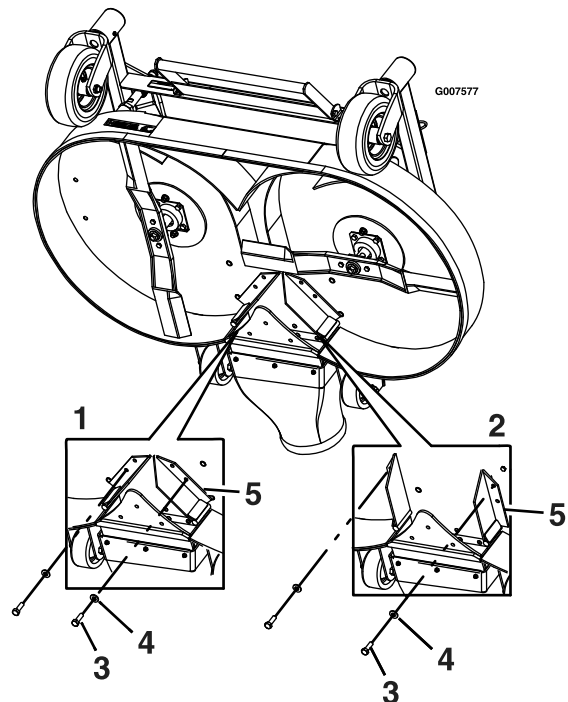

Figure 25
7. Remove the bolt and washer at the front of each FRS baffle (Figure 25).